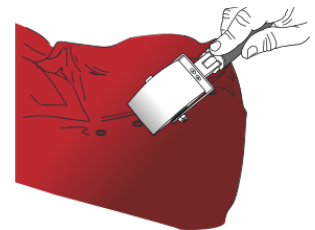

Figure 18
- › Then slide the ROLLRIV (FIG. 18) over the film to adhere it to the entire rivet surface. Press it around the entire rivet using a squeegee or your thumb.